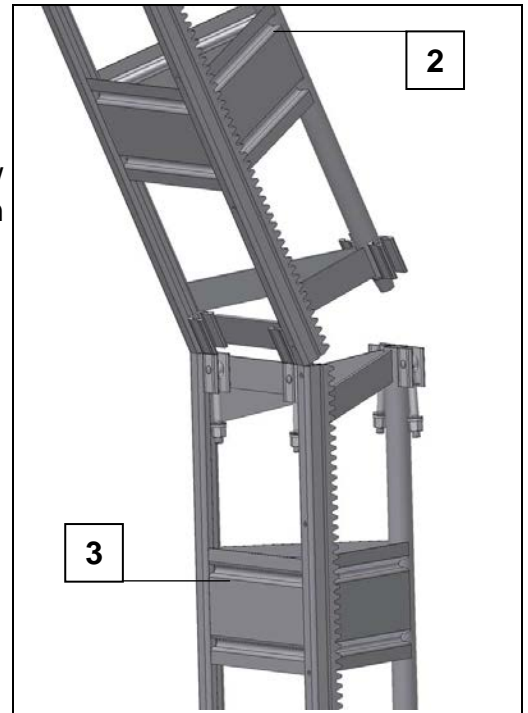

Fig. 31 Putting on a mast element
- Go up and install 3 further mast elements, see also Fig. 30/Fig. 31.